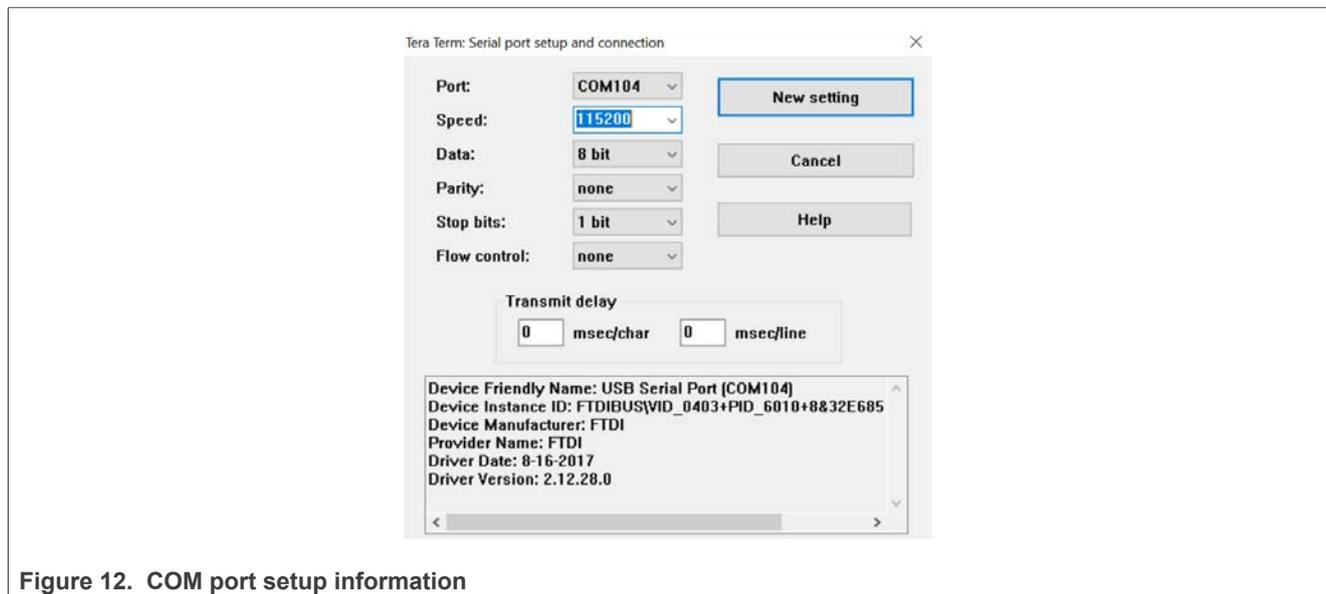

Figure 12. COM port setup information
**Step 7** – Look for the COM port setup information and configure the COM port to a baudrate of 115200. Figure 12 shows the Serial port setup and connection window of Tera Term.